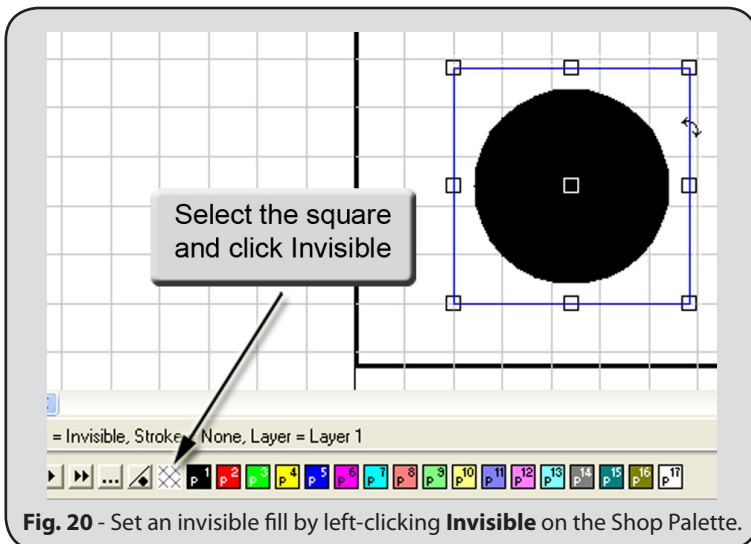

Fig. 20 - Set an invisible fill by left-clicking **Invisible** on the Shop Palette.
4. Draw a square shape around the circle and assign an **Invisible** fill to the square (Fig. 20).